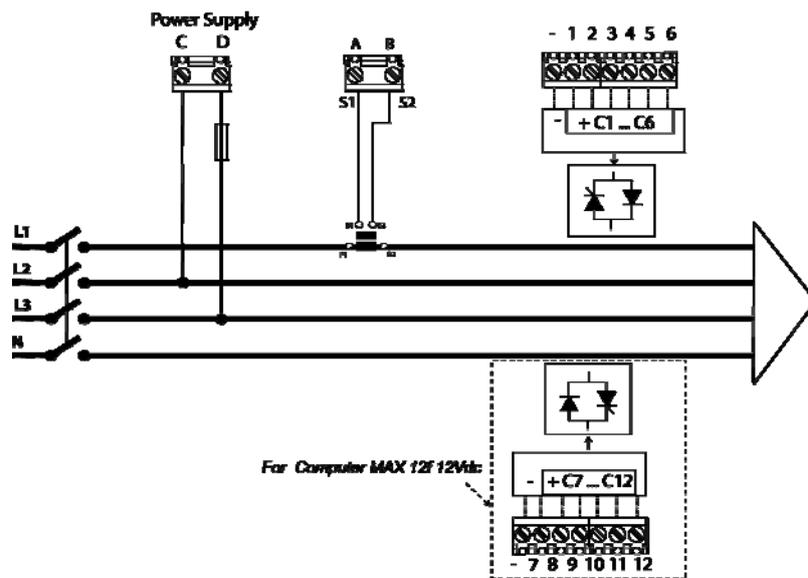

Fig. 4.2.- Connection diagram Computer MAX 6f 12Vdc / 12f 12Vdc
The current transformer (CT) should preferably be connected to phase L1, while the voltage connections should be connected to phases L2 and L3 (see diagrams in Fig. 4.2 and 4.3). Connections P1, P2, S1 and S2 shown on the said diagrams must be respected. If the connection layout mentioned above is not respected, the phase must be adjusted, following the procedure in section 5.1.7.
This parameter can be used to adapt the regulator to the different connection options of the power supply and measuring cables, and the cables of the current transformer to the phases of the three-phase system. Fig. 4.2 and 4.3 show the default configuration. That is, the current transformer is on phase L1 and the voltage measure between phases L2 (terminal C) and L3 (terminal D). It is often hard to check whether the unit has been wired like this or not, and so one of the T1 to T6 options shown in Table 5.3 must be chosen to cater to this situation. The selection of one of these options must be made in the installation, assuming that, during adjustment, it is consuming inductive reactive power with an inductive $\cos\phi$ between 0.7 and 1. It is necessary to keep testing options until the screen displays a $\cos\phi$ between 0.7 and 1